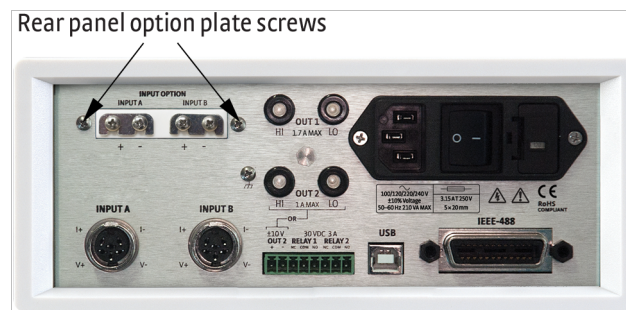

FIGURE 8-10 Align the 3060 card with input A and B
8. Locate the screws included in the 3060 option kit. Attach the card by starting both of these screws in a few threads before tightening either (FIGURE 8-10).